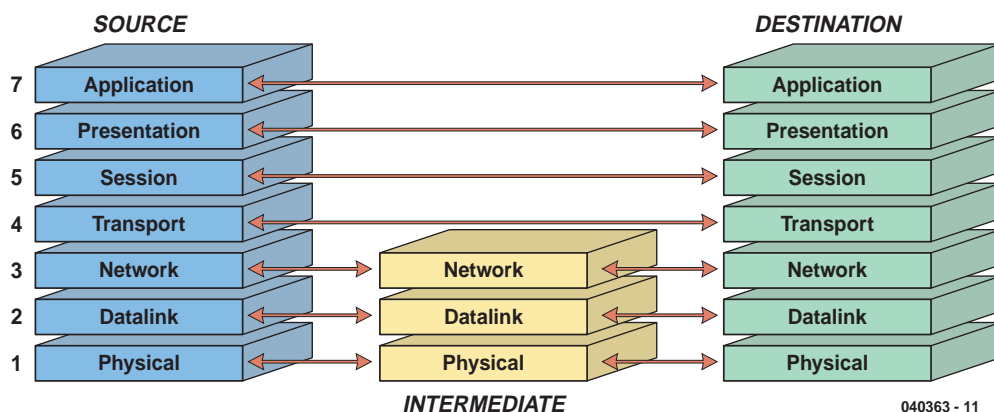

Figure 1.
The fact that it has taken so long for the system designers to spend time on the application is not surprising in itself. Since the mid-1980s, there exists a standard describing the aspects to take into account when implementing the network functionality. At that time, the ISO (International Standards Organization) published a reference model called *Open Systems Interconnect (OSI)*, see **Figure 1**. A bit further on, we'll see that besides many standards concentrating on the actual connection and/or the manner of communicating, there are now also standards giving due attention to the highest layers of the OSI model: the area where the actual application is concerned. For convenience's sake, we will divide the standards (professional networking and home automation) into three categories derived from the OSI reference model. The subdivision is into (1) the network layer; (2) the communication layer and (3) the application layer.